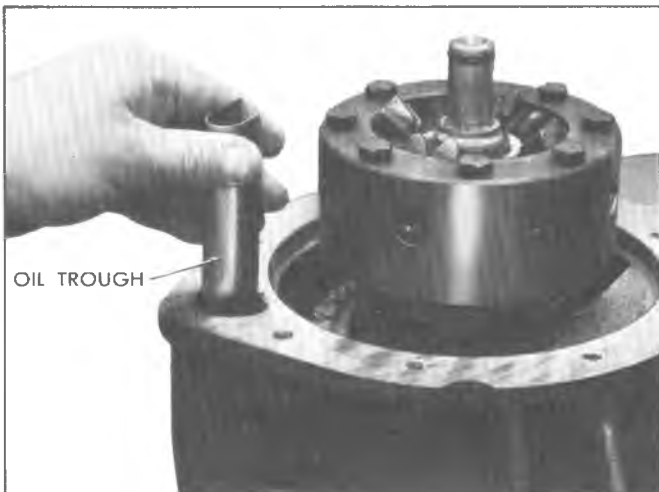

Fig. 7F—Removing Oil Trough
7. Remove oil trough from transfer case (Fig. 7F).